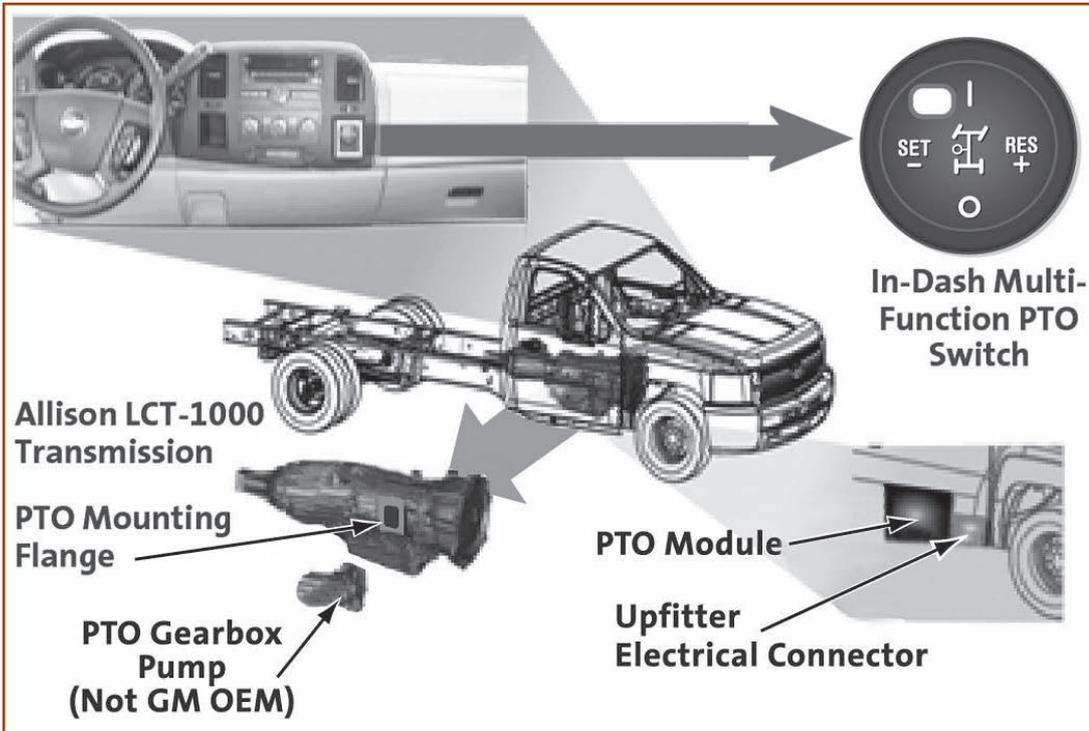

Figure 2
**2007-2008 System (figure 2)**